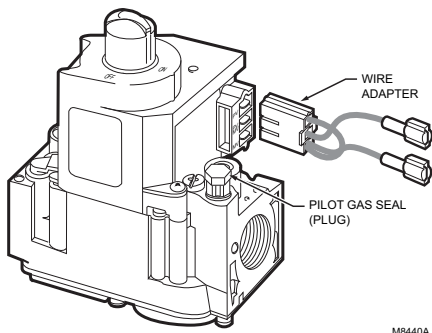

Fig. 9. Install wire adapter for hot surface or direct spark ignition systems. Pilot plug must be in the valve pilot opening.
2. When the gas control is installed on a hot surface or direct spark ignition system, attach the wire adapter provided to the wiring terminals. See Fig. 9 for the wire terminal location.